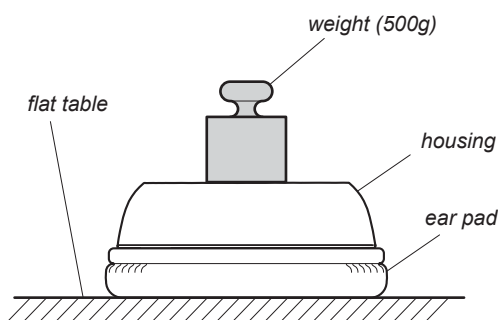

Fig. 6
2. Put a weight (500 g) on the housing. (Refer to Fig. 6)
9. Put a weight (500 g) on the housing. (Refer to Fig. 6)